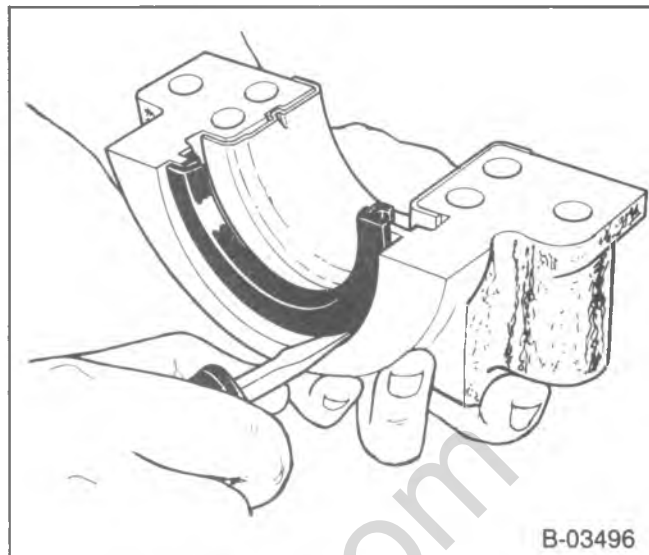

Figure 21—Removing The Lower Seal Half
↔ Remove or Disconnect (Figures 21 and 22)
- Lower seal half (figure 21).